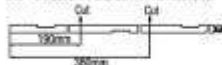

Fig. 1.
1. Cut the door stiffner strip to suit the height of the door as shown in Fig. 1